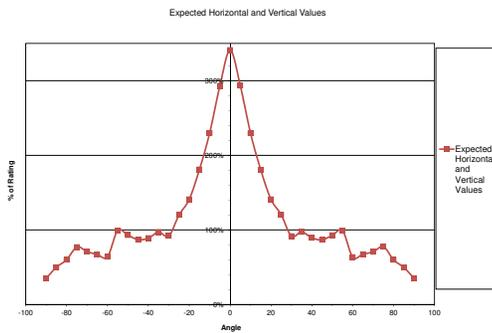

Figure 4: ELSPSTC and ELSPSTC-A Expected Light
5. **Verify appliance settings** are correct for your application. Selector switch locations are shown in Figure 4. Strobe settings are 15cd, 30cd, 75cd, 95cd, 150cd, 177cd. Speaker Setting Chart is shown in Table 4. Factory settings are (F) 70V, 1/2W and 15cd.